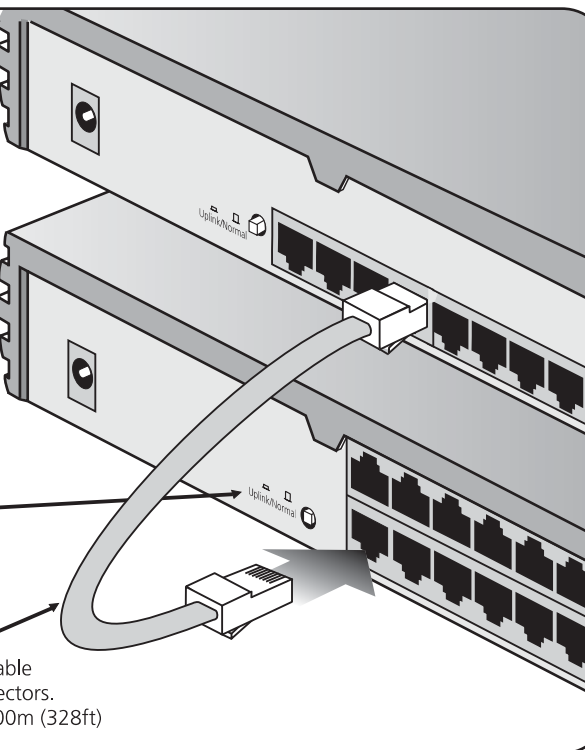

Figure 3 Correct Connections for an OfficeConnect Switch
1. Connect the Uplink/Normal port of the unit to any of the Switch's ports (as shown in Figure 3). If using the highest number port on the Switch (port 5 on Switch 5, port 8 on Switch 8), set its Uplink/Normal switch to Normal (out).